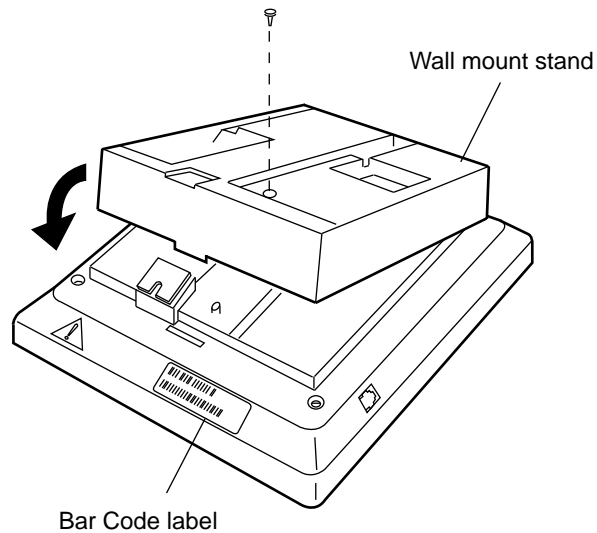

FIGURE 7-18. Installing the Wall Mount Stand
1. Place the upper tab on the top of the wall mount stand in the upper tab slot on the bottom of the voice terminal. See Figure 7-18.
4. Reinstall the screw through the wall mount stand to hold the stand in place. See Figure 7-18.